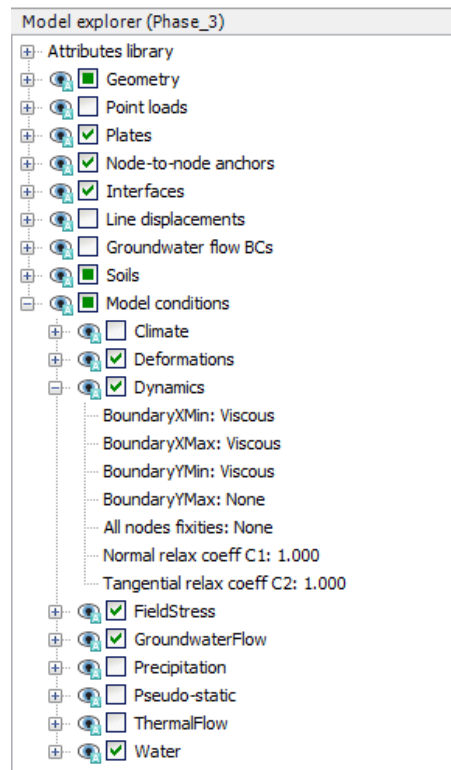

Figure 221: Boundary conditions for dynamics calculations
6. Expand the **Dynamics** subtree. Check the boundary conditions **BoundaryXMin**, **BoundaryXMax** and **BoundaryYMin** are viscous which is shown in Figure 221 (on page 251).